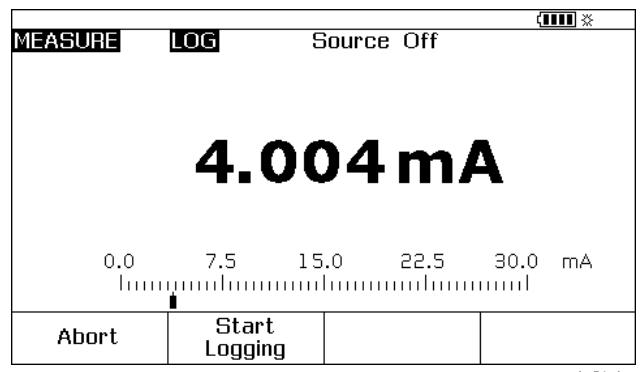

Figure 41. Start Logging Screen
9. Push the **Done** softkey. The display changes to the screen shown in Figure 41.